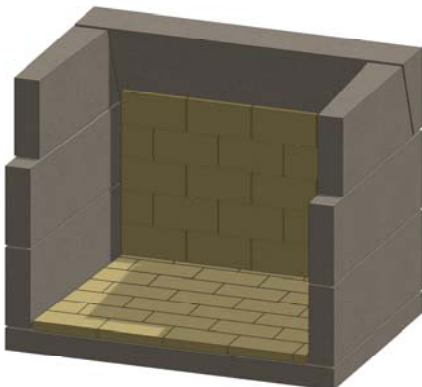

Figure 15. Back Wall Firebrick
I. Install firebrick on the back wall, with the brick laid on edge. See Figure 15.